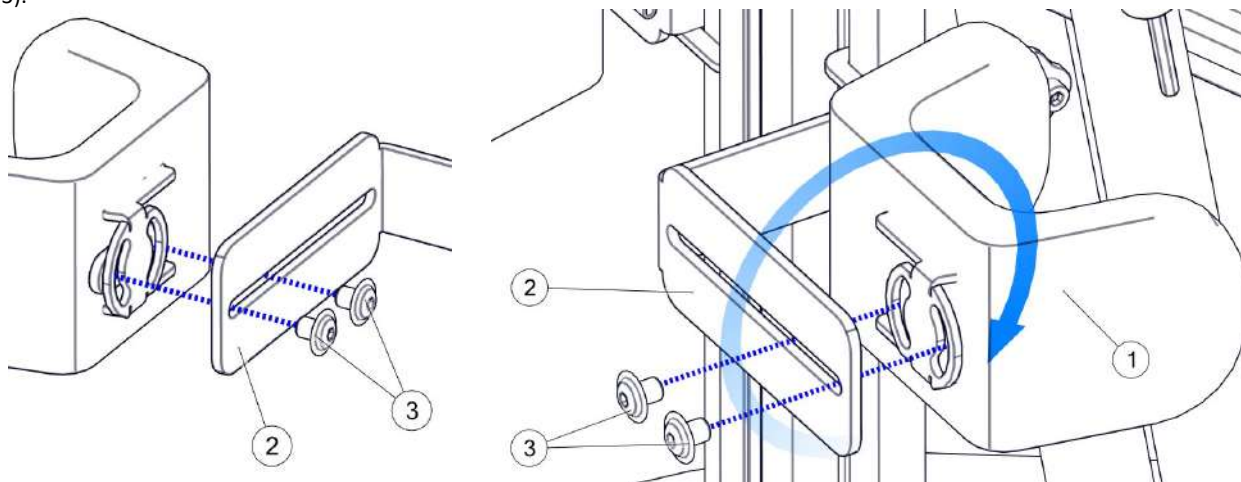

Fig. 13
Fig. 13 The Stander allows both backward and forward upright standing. To perform the correct type of upright positioning, you need to fit the knee pads according to the upright position in the correct direction. To change the position of the knee-pad to the correct upright position (1), unscrew the screws (3), then turn the knee pad by 180 degrees. In the next step, remove the screw (3).